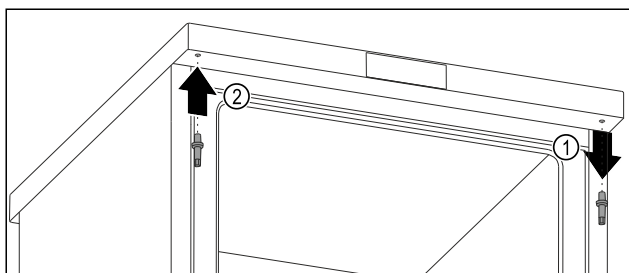

Fig. 12
- ▶ Unscrew the upper bolt using an external hexagon wrench. Fig. 12 (1)
- ▶ Tighten the bolt on the opposite side using an external hexagon wrench. Fig. 12 (2)